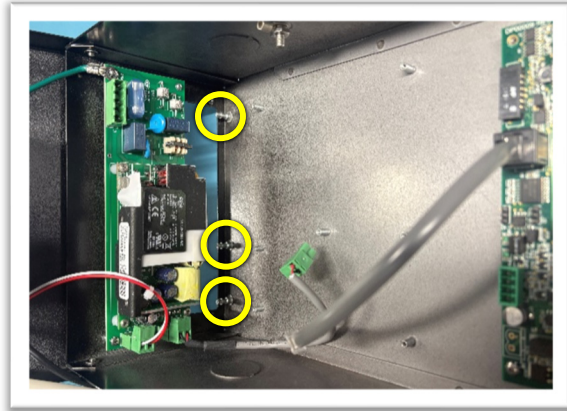

Figure 1.9
- 14) Align the new Gen IV MCU board to the three snap-stands (see Figure 1.9; yellow), gently apply pressure to install. **Do not bend the board.** The board should snap into place.